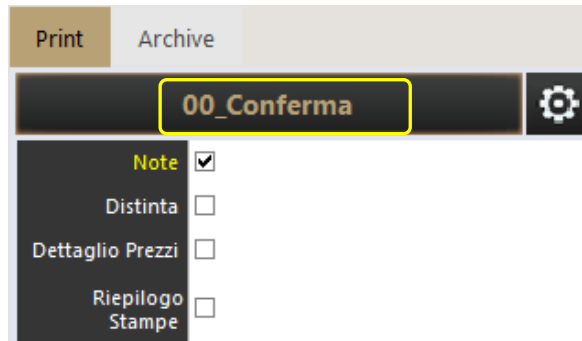

Figure 12.8: Printing rules menu
On the right there is a menu with all of the printing rules under the "Print" tab (2), check the box of the rule you want to use, see figure 12.8,